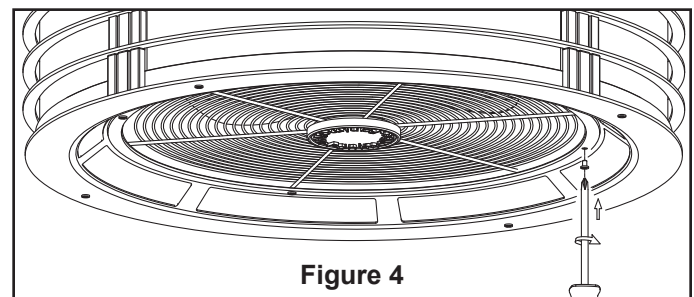

Figure 4
- ☐ 3. Reassemble the grill to the motor assembly using the removed screws. (Figure 4)